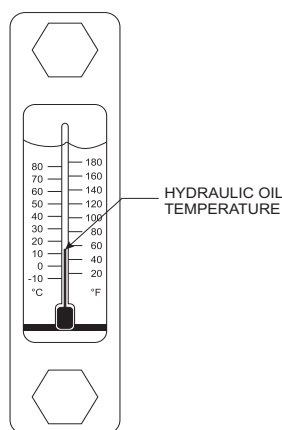

Figure 29. Hydraulic Oil Temperature Gauge
4. Let the pump cycle until the hydraulic oil temperature (Figure 29) is approximately 50° to 60° F.